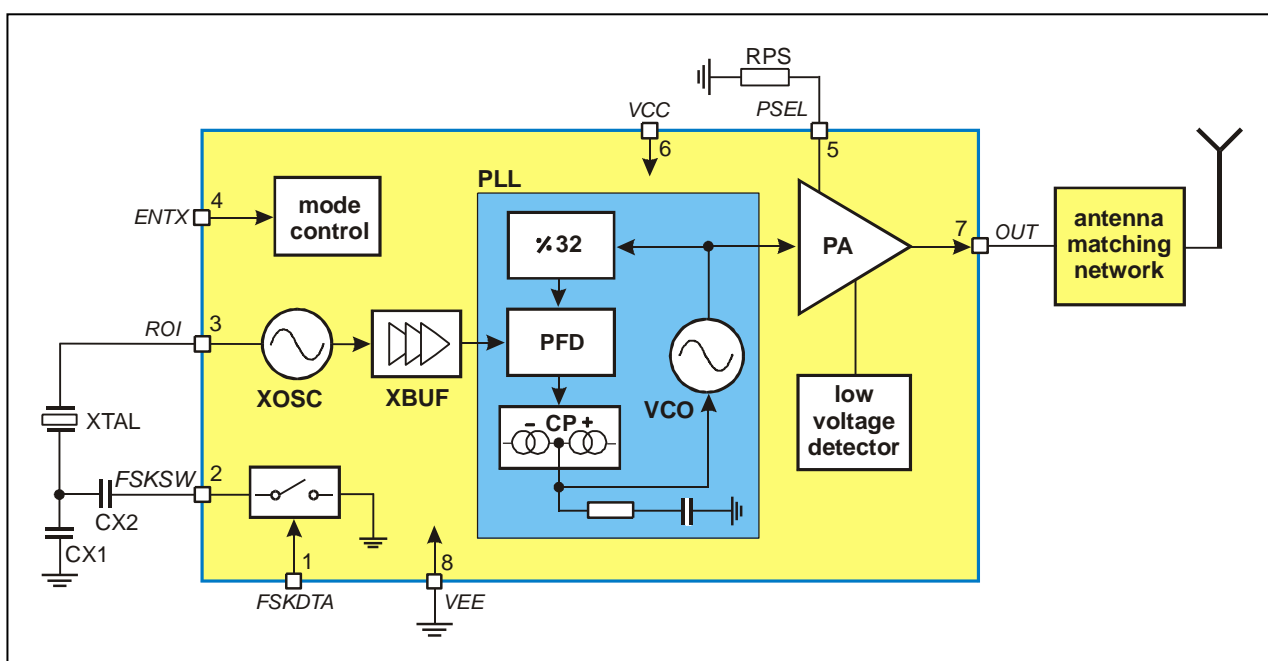

Fig. 1: Block diagram with external components
As depicted in Fig.1, the TH72001 transmitter consists of a fully integrated voltage-controlled oscillator (VCO), a divide-by-32 divider (div32), a phase-frequency detector (PFD) and a charge pump (CP). An internal loop filter determines the dynamic behavior of the PLL and suppresses reference spurious signals. A Colpitts crystal oscillator (XOSC) is used as the reference oscillator of a phase-locked loop (PLL) synthesizer. The VCO's output signal feeds the power amplifier (PA). The RF signal power  $P_{out}$  can be adjusted in four steps from  $P_{out} = -12$  dBm to +11 dBm, either by changing the value of resistor RPS or by varying the voltage  $V_{PS}$  at pin PSEL. The open-collector output (OUT) can be used either to directly drive a loop antenna or to be matched to a 50Ohm load. Bandgap biasing ensures stable operation of the IC at a power supply range of 2.1 V to 5.5 V.